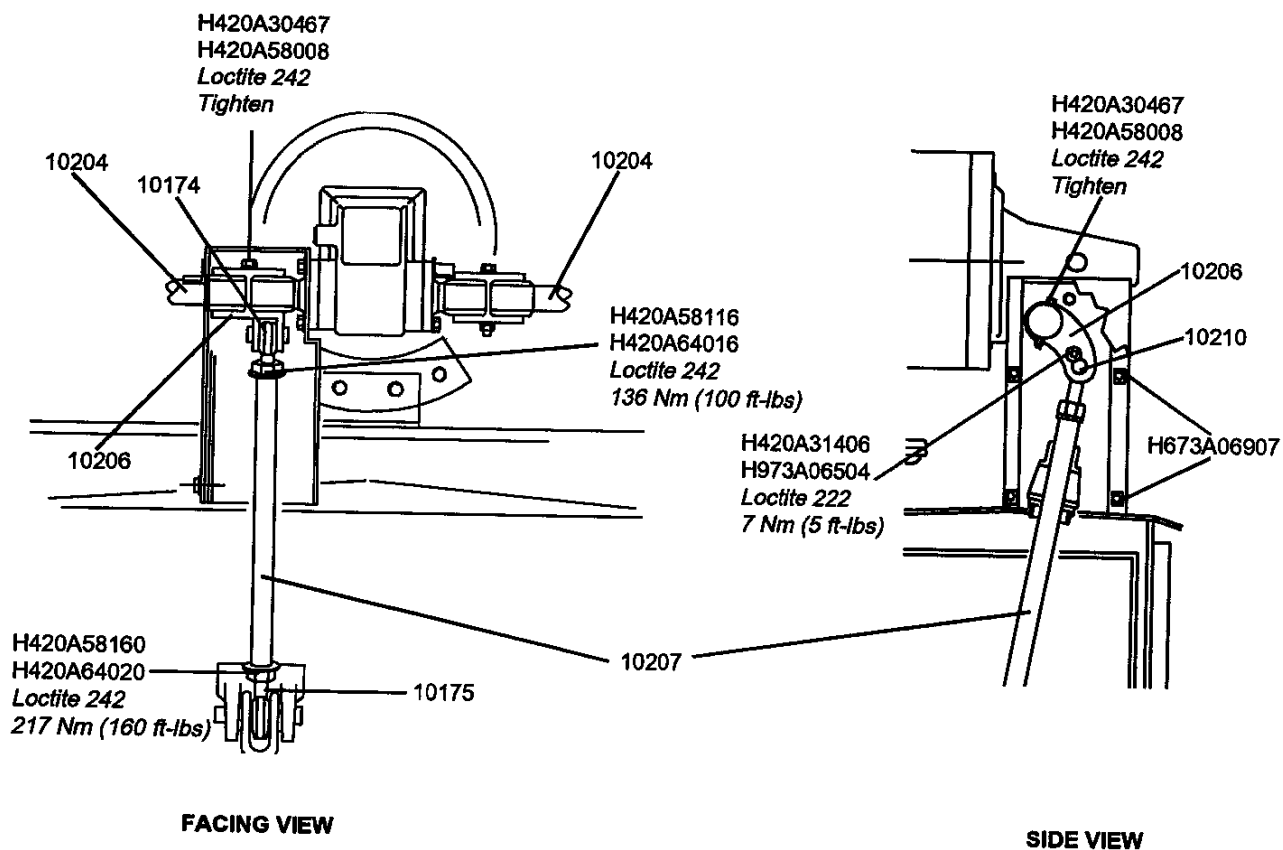

Figure 6
4. Re-install the M8 hex head bolt H420A30467 (Fig. 6) and nut H420A58008 into the crank 10206.
6. Move the mechanism pullrod assembly 10207 into position and slide the crank wrist pin 10210 (Fig. 6) into place.
**Notice:** *The crank wrist pin usually can be re-installed without requiring any adjustment of the pullrod length. However, because this pin is finely machined for precision fitting, it is sometimes difficult to insert the pin. Therefore a very slight adjustment of the tumbuckling pullrod may be required to align the pin. To adjust the pullrod, loosen the lock nuts H420A58160 (Fig. 6) and H420A58116 and then turn the pullrod slightly (on the order of a half turn) until the pin fits. Apply Loctite 242 to the lock nuts and torque locknut H420A58160 to 217 Nm (160 ft-lbs); torque lock nut H420A58116 to 136 Nm (100 ft-lbs). If the pin alignment is off significantly, (more than 1 mm) the interrupters may not be fully opened or properly synchronized.*
7. Re-install the M6 hex head bolt H420A31406 (Fig. 6) and washer H973A06504 which hold the crank wrist pin 10210 in place. Apply Loctite 222 to the threads of the M6 bolt and torque to 7 Nm (5 ft-lbs).
**Important:** *With the 145 PM circuit breaker, the mechanism cannot be jacked closed. The interrupters must be isolated from the mechanism by removing the crank wrist pin 10210 (Fig. 6).*
3. Remove the M6 hex head bolt H420A31406 (Fig. 6) and washer H973A06504 which holds the crank wrist pin 10210 in place.
8. Move the mechanism pullrod assembly 10207 (Fig. 6) into position and slide the crank wrist pin 10210 into place.
*may be required to align the pin. To adjust the pullrod, loosen the lock nuts H420A58160 (Fig. 6) and H420A58116 and then turn the pullrod slightly (on the order of a half turn) until the pin fits. Apply Loctite 242 to the lock nuts and torque lock nut H420A58160 to 217 Nm (160 ft-lbs); torque lock nut H420A58116 to 136 Nm (100 ft-lbs). If the pin alignment is off significantly, (more than 1 mm) the interrupters may not be fully opened or properly synchronized.*
9. Re-install the M6 hex head bolt H420A31406 (Fig. 6) and washer H973A06504 which hold the crank wrist pin 10210 in place. Apply Loctite 222 and torque to 7 Nm (5 ft-lbs).